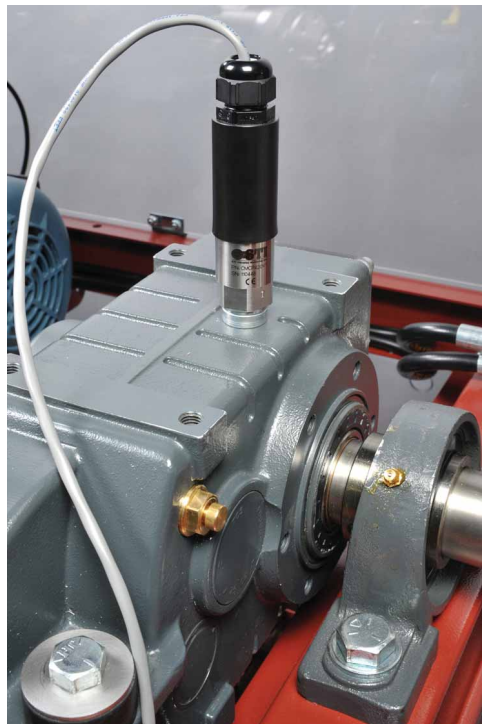

Figure 2-52. Vibration sensor on the gearbox.
3. Open the safety panels and position the vibration sensor on the gearbox (Figure 2-52).